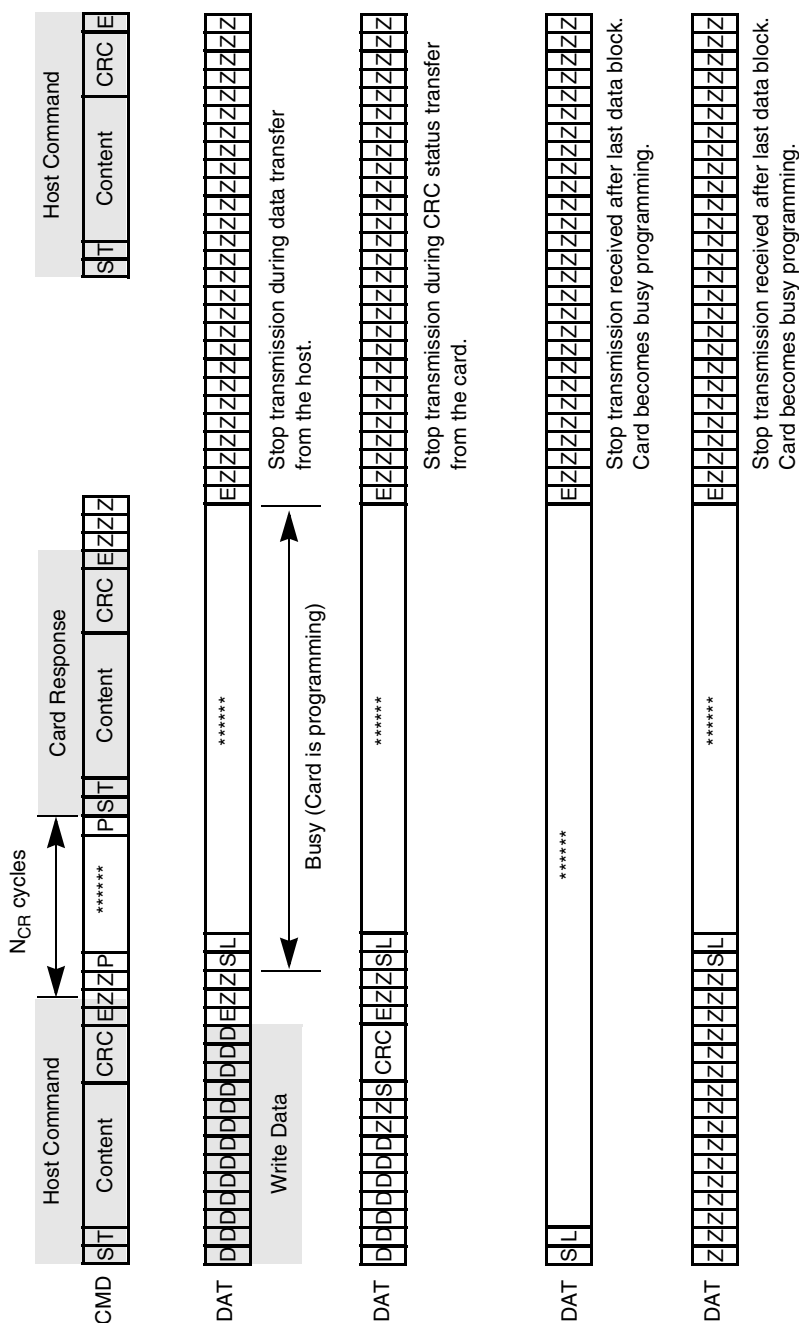

Figure 30. Stop Transmission During Different Scenarios
The card identification and card operation conditions timing are processed in open-drain mode. The card response to the host command starts after exactly  $N_{ID}$  clock cycles. For the card address assignment, SET\_RCA is also processed in the open-drain mode. The minimum delay between the host command and card response is  $N_{CR}$  clock cycles as illustrated in Figure 26. The symbols for Figure 26 through Figure 30 are defined in Table 26.
**Table 26. State Signal Parameters for Figure 26 through Figure 30**
Table 27. Timing Values for Figure 26 through Figure 30